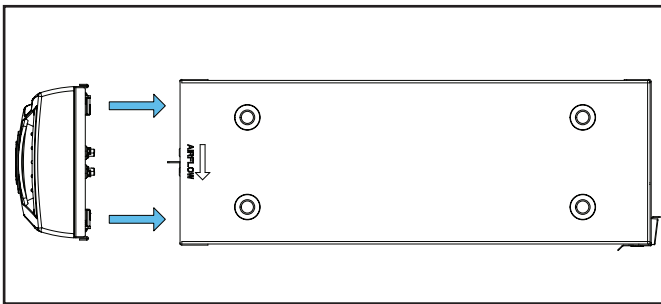

Figure 12 Door Install
Step 1: To reinstall the Door Assembly, align door with unit assembly and push towards the unit. See Figure 12.